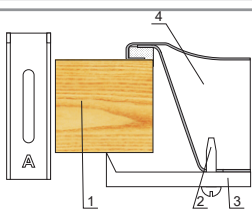

Fig. 8
2. Secure the hob to the worktop using the fixing brackets and screws supplied, as shown in the following diagram (Fig. 8).